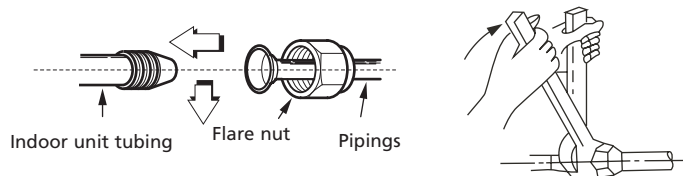

Figure 13
- b. Interior unit: Tighten the gland nut by hand to the piping on the interior unit and then tighten it with a spanner and torque wrench as shown in fig. 13.
- c. Exterior unit: Tighten the gland nut by hand to the connections on the valves on the exterior unit and then tighten it with a spanner and torque wrench as shown in fig. 13.